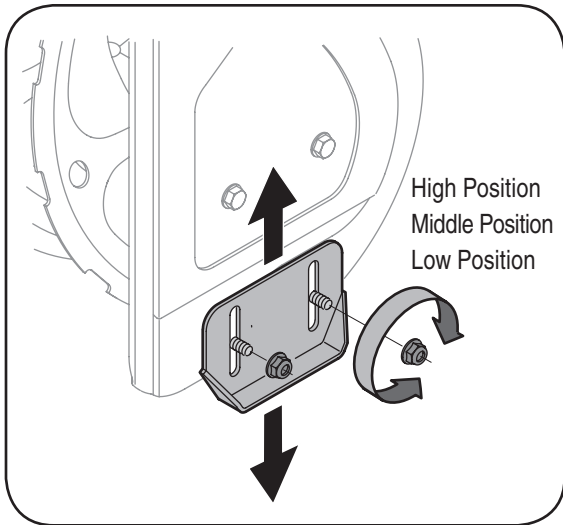
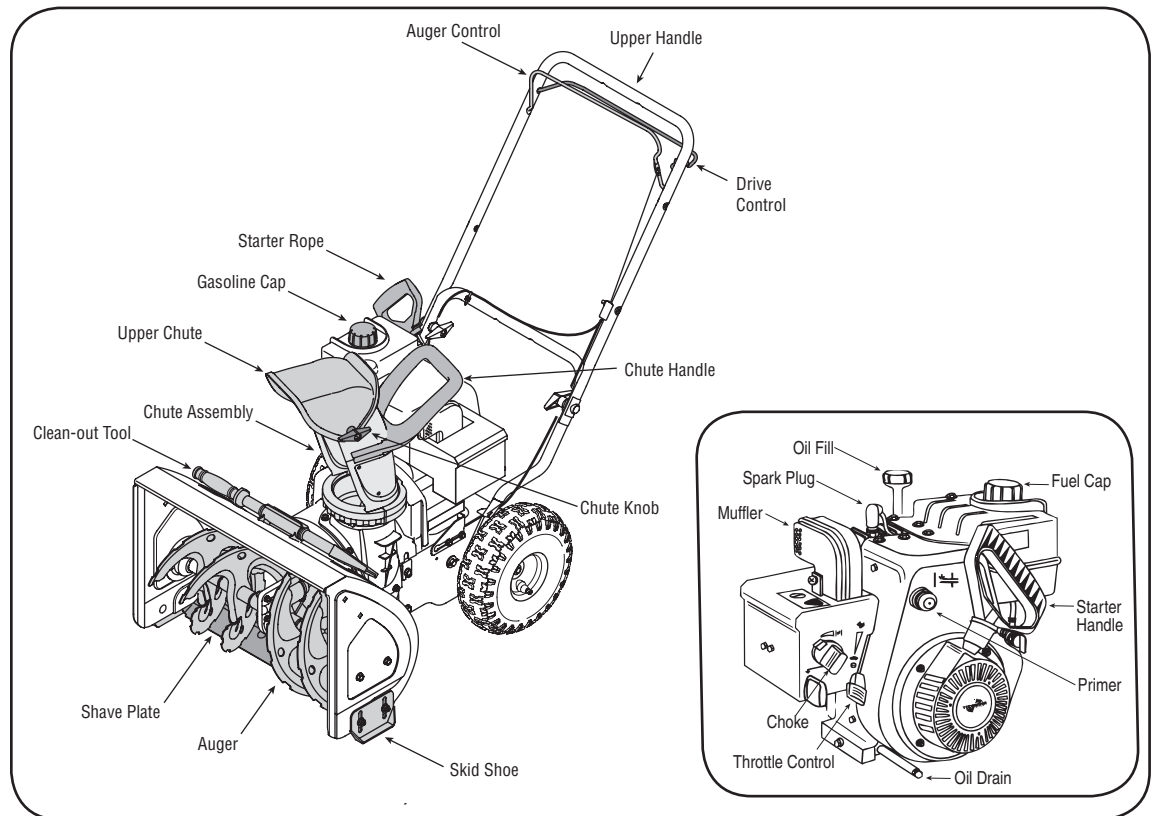

Figure 4
Figure 7
The space between the shave plate and the ground can be adjusted. See Figure 7. For close snow removal, place skid shoes in the low position. When the area to be cleared is uneven, place skid shoes in the middle or high position. See Figure 4.
1. Adjust skid shoes by loosening two hex nuts and carriage bolts on each skid shoe, and moving the skid shoe to the desired position. See Figure 4.